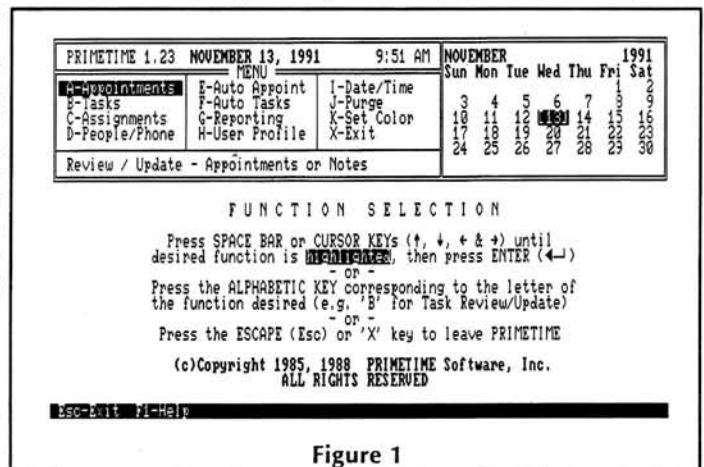

Figure 1
1. Load Primetime Personal, then press Ctrl-Alt to display the main screen shown in Figure 1.